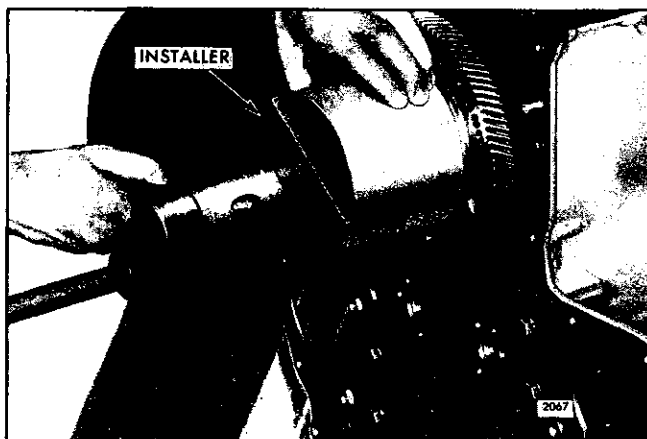

Fig. 2 - Installing Crankshaft Timing Gear Using Installer J 7557
4. Place a heavy hammer against the head of the bolt in the front end of the crankshaft. Place installer J 7557 against the rear face of the timing gear and drive the gear up against the shoulder on the crankshaft (Fig. 2).